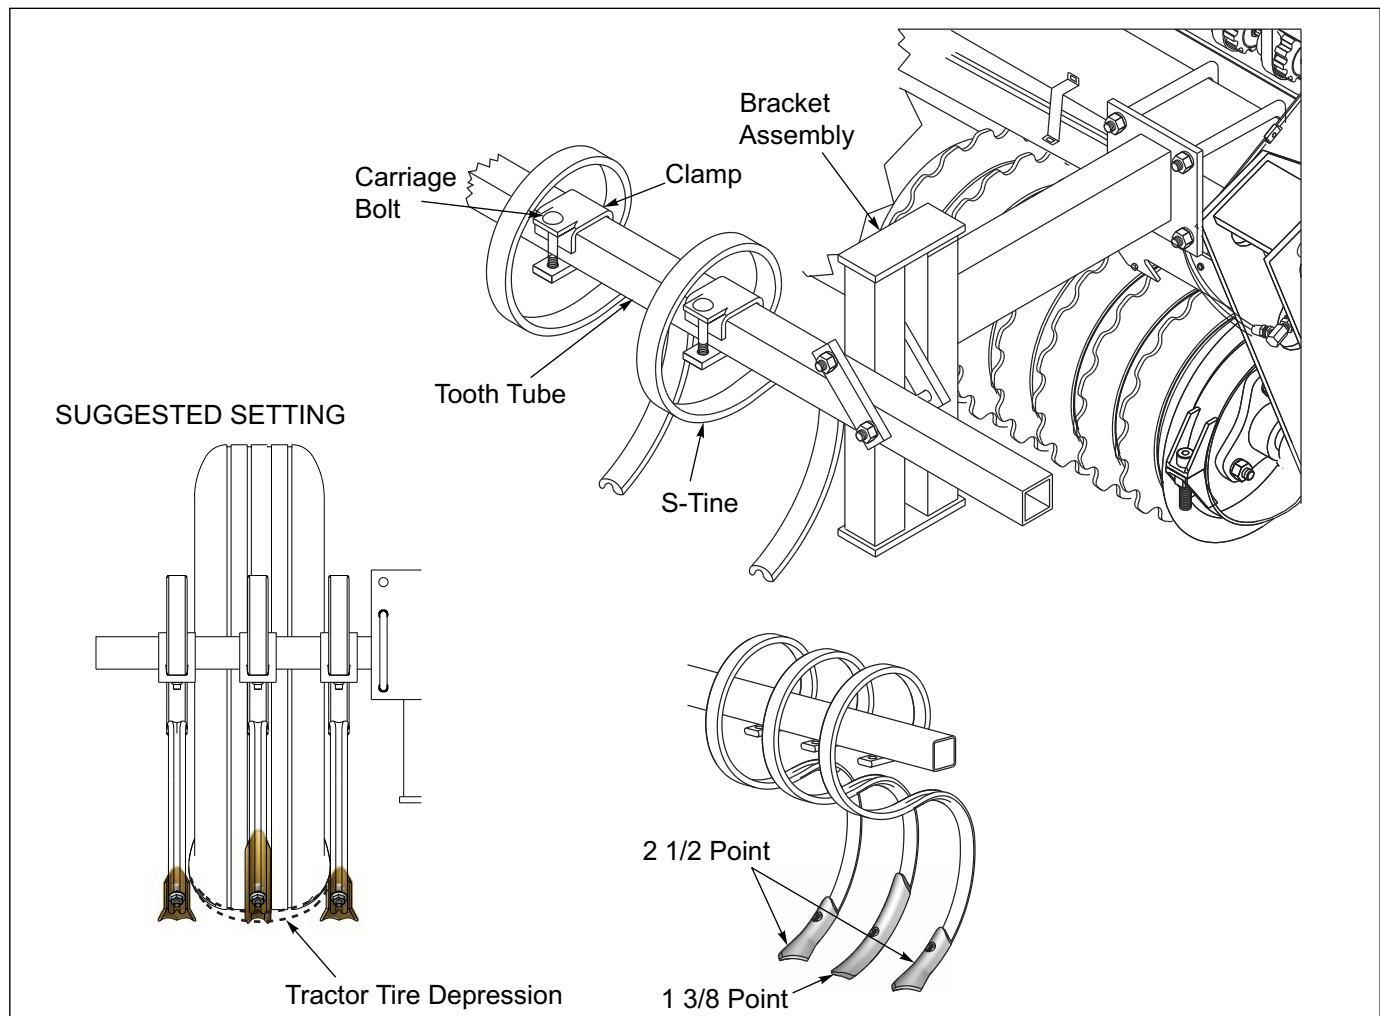

Figure 2-30: S-Tine Setup
1. Assemble the S-Tine Brackets to the front of Seeder Frame Tube with 1/2-13 x 7-1/2 x 4-1/2 U-Bolts, Lock Washers and Nuts. Do Not tighten at this time. Brackets should be about 53" from center of machine. See Figure 2-30.